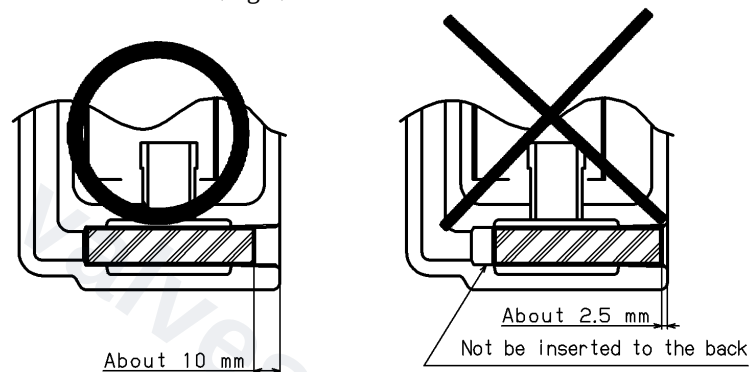

Fig.4
- (1) Remove each part by removing hexagonal bolts^⑬ and pulling up cover^②.
- (2) Tear spindle^⑧ out of cover^②, and remove lever-P^⑥ and bucket-P^③.
- (3) Remove valve seat^⑤ by using hexagonal socket (Double-side width: 1/2", 12.7mm).
- (4) Remove plug^⑫ and pulling out screen^⑨.
- (5) Assembly should be performed the contrary of the disassembly procedure. Use new gaskets.
- (5-1) Plug^⑫ should be tightened after confirmation that screen is certainly inserted to the back. (Fig.4).